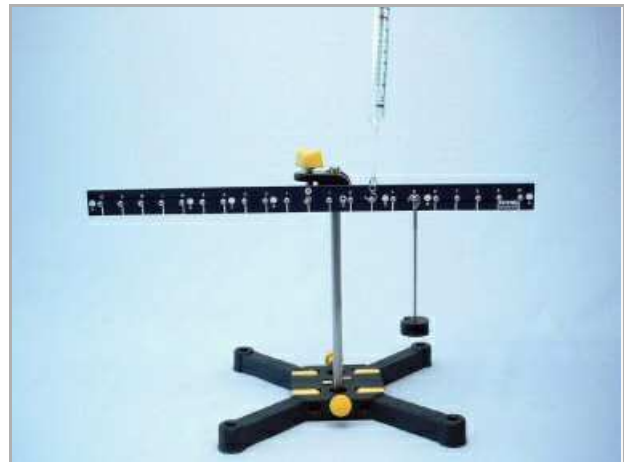

Fig. 9
- Move the spring balance successively to the 8, 6, 4 and 2 marks on the right side and measure the force F for each position of the spring balance (Fig. 9). Record all the values in Table 2 in the report.